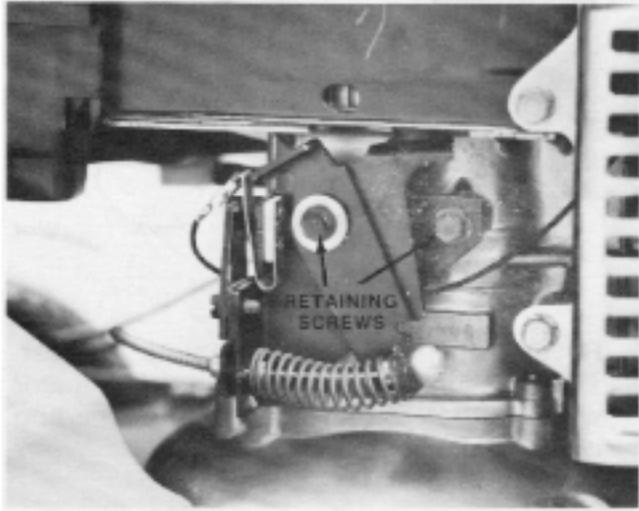

Figure 3-21
- If removal of the brake assembly and switch is necessary, remove the two retaining screws. See Fig. 3-21.